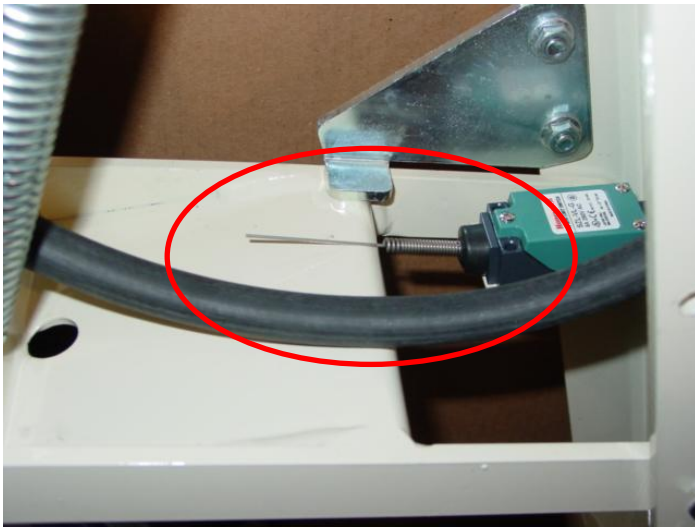

Figure 9
-If limit switch LED's show switch is working, check adjustments: In raised position, lower switch needs to be in activated position, as shown in Figure 9. To adjust, loosen bolt holding switch and pivot to desire position.